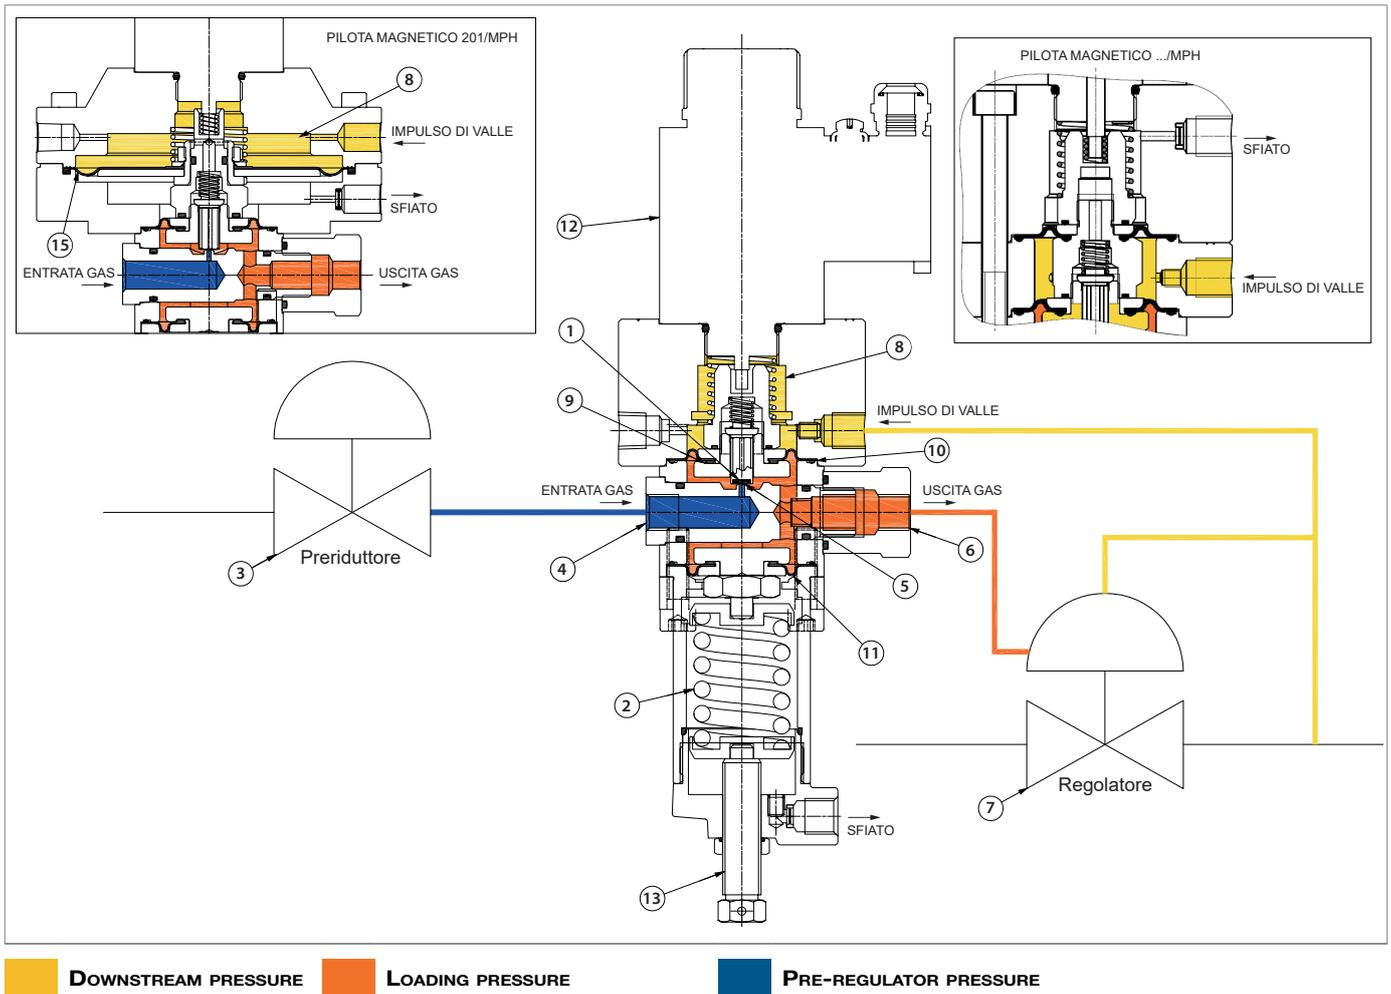

Fig. 4.4. Operation PILOT 200/MP
- breakage of the diaphragm (ref. 11, Fig. 4.4)
- breakage of the diaphragm (ref. 15, Fig. 4.4)